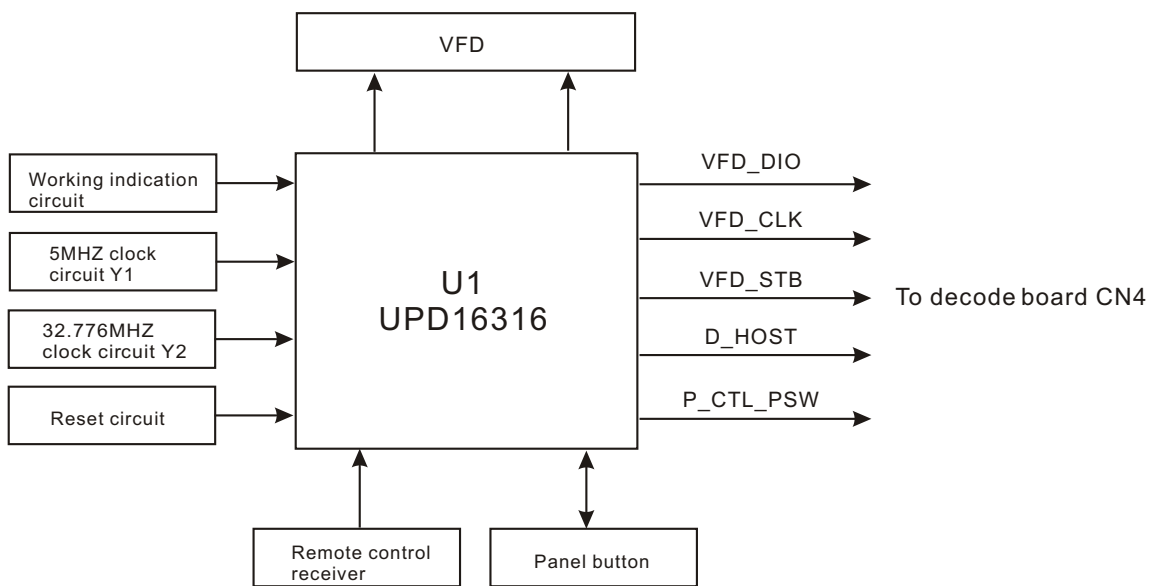

Figure 3.2.12.1 Control panel circuit block diagram
1. Control panel block diagram is shown in the figure 3.2.12.1:
Shown in the figure 3.2.12.2, it is a low level effective reset circuit, after power on, VDD power charges C11 through R24, the voltage on two ends of capacitor cannot change suddenly, so Q1 base electrode is high level, Q1 is saturated on, RESET end outputs low level; the charge course of capacitor makes the electric potential of Q1 base electrode decreases quickly, Q1 cuts off, RESET end outputs high level and reset finishes.